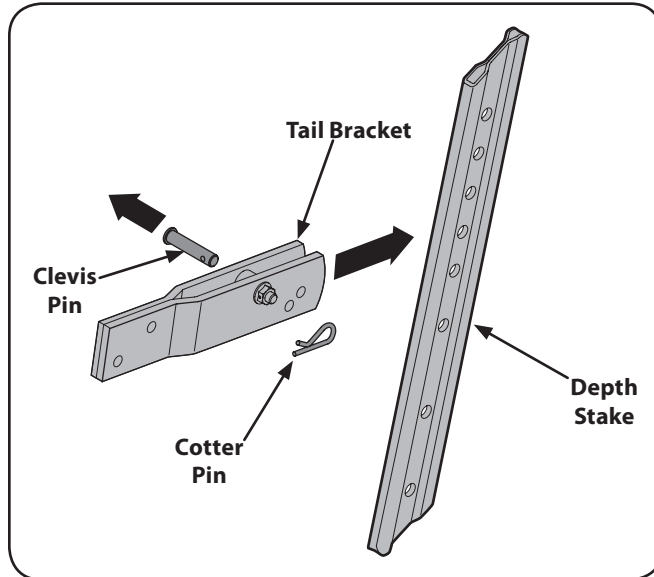

Figure 3-5
1. Disassemble the depth gage assembly as seen in Fig. 3-5. Retain the clevis pin and cotter pin for later reassembly.